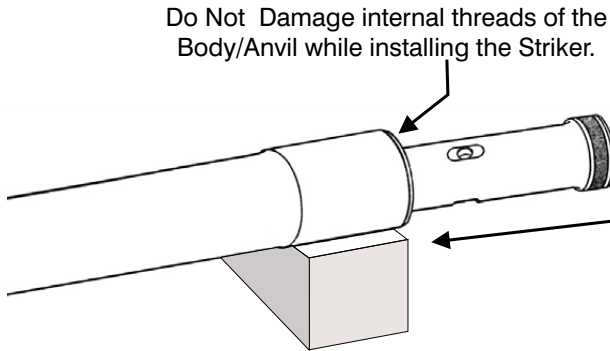

Figure 9-34. Insert Striker into the Body/Anvil.
4. Coat the Striker (2) with hydraulic fluid before installing it into the Body/Anvil (1).
5. Refer to Figure 9-34 and slide the Striker (2) into the Body/Anvil (1). The back end of the Striker should be about 6 in. to 8 in. in (past the threads of the Body/Anvil).